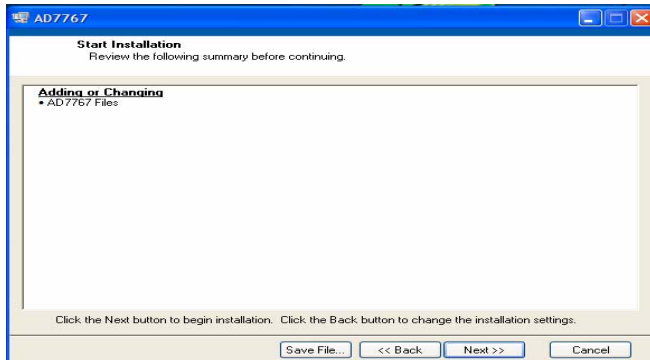

Figure 5. AD7767/-1/-2 Install actions
4) To start the installation, click the "Next" button as shown in Figure 5. This window details the actions of the installation.